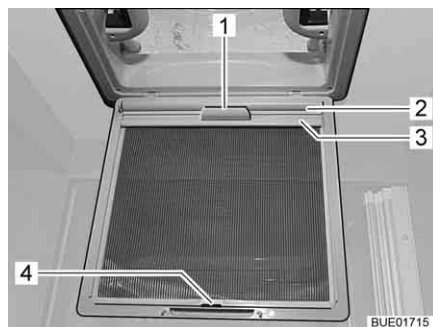

Fig. 86 Blind
- Using the handle (Fig. 86,1), pull out the blind (Fig. 86,2) and hook the retainer (Fig. 86,3) into the hook (Fig. 86,4) on the insect screen.
- Release the retainer (Fig. 86,3) from the hook (Fig. 86,4) and, using the handle (Fig. 86,1), slowly return the blind (Fig. 86,2).